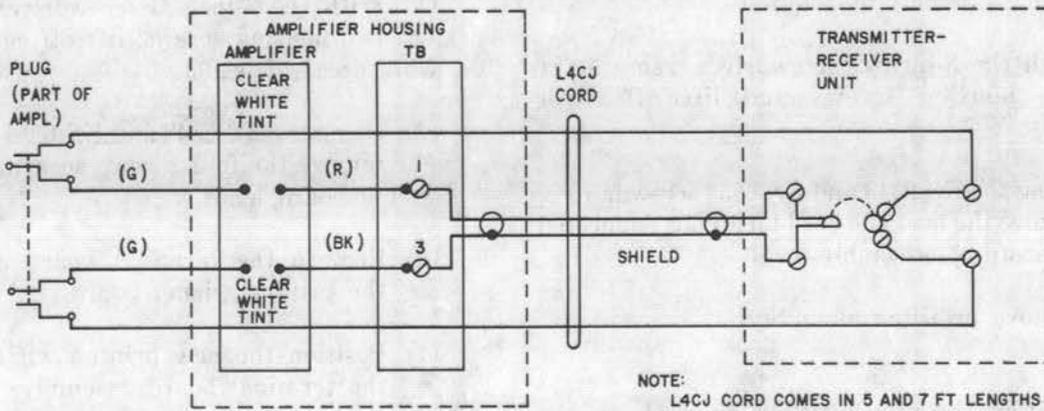

Fig. 8—280A-50 Amplifier Connecting Diagram
- (1) With the 3-inch C screwdriver, remove the two housing screws; lift off cover assembly.
- (2) Using the KS-2348 and the KS-6854 screwdrivers, remove terminal screw and remove the L4CJ cord from the amplifier.
- (3) With the new amplifier, connect the cord as shown in Fig. 8 and assemble the parts in reverse order of disassembly.
- (1) With the 3-inch C screwdriver, remove the two housing screws and lift off cover assembly.
- (2) Using the KS-2348 and KS-6854 screwdrivers, remove the lead and cord terminals connected to the profiling assembly.
- (3) Remove profiling assembly.
- (4) Position the new profiling assembly in the shell half and reassemble the parts in reverse order of disassembly, connecting the lead and cord terminals as shown in Fig. 8.
(5) Dress leads as originally positioned.
- (1) With the 3-inch C screwdriver, remove the two housing screws; lift off cover assembly. Note dress of leads.
- (2) Using the KS-2348 and KS-6854 screwdrivers, remove the four screws securing the printed wiring board leads.
- (3) Remove the terminal board assembly and the printed wiring board.
- (4) Position the new printed wiring board and the terminal board assembly.
- (5) Connect the lead as shown in Fig. 8.
- (6) Assemble parts in reverse order of disassembly.
(7) Dress leads as originally positioned.
- (1) At the transmitter-receiver unit, unscrew the cap from the housing assembly and remove wave washer and ring.
- (2) With the KS-6854 screwdriver, remove the screws holding the cord terminals and remove cord retainer and cord.
- (3) Position new cord in housing assembly, replace cord retainer, and connect terminals as shown in Fig. 8.
- (4) Replace ring, wave washer, and cap.
- (5) At the 280A-50 amplifier, remove the housing screws using the 3-inch C screwdriver; lift off cover assembly.
- (6) With the KS-2348 and KS-6854 screwdrivers, remove the terminal screws and remove the L4CJ cord from the amplifier.
- (7) Position new L4CJ cord in amplifier and connect terminals as shown in Fig. 8.
- (8) Dress leads as originally positioned.
- (9) Reassemble parts in reverse order of disassembly.